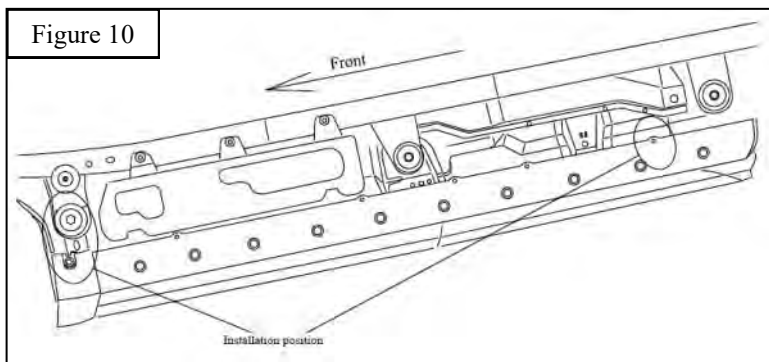
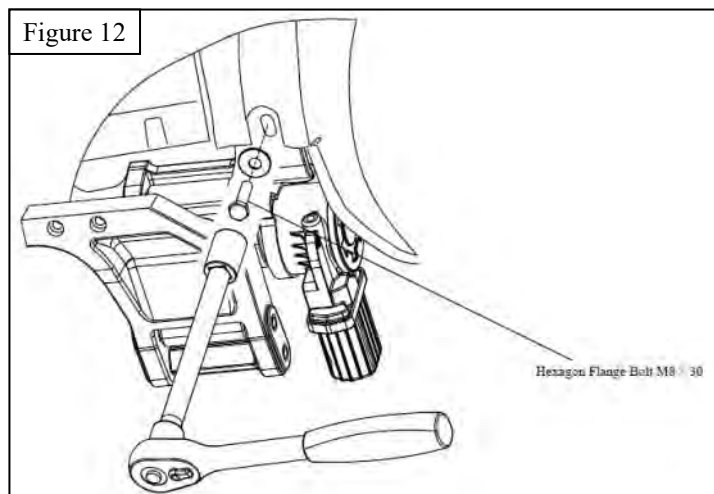

Figure 12
Figure 13
8. Use a M8 Hex Flange Bolt, 30MM length, for the upper mounting location for mounting the passenger side front motor linkage (Item 3) **Figure 12**. Use the OEM bolt that attaches the vehicle's cab to the frame for the lower mounting location of the motor linkage **Figure 13**.